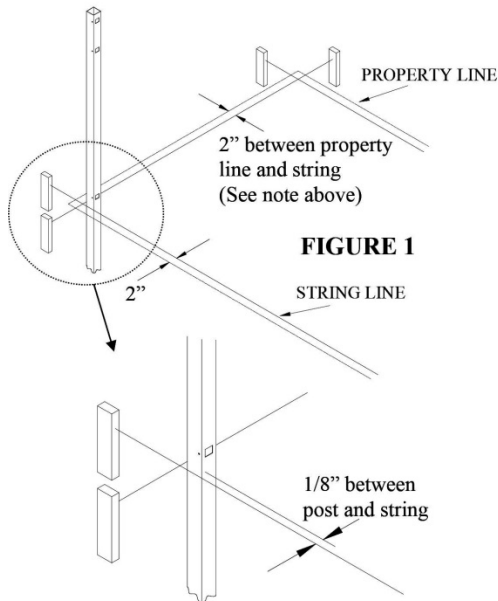

FIGURE 1
1. First stake out the area and run strings around as shown in Figure 1.